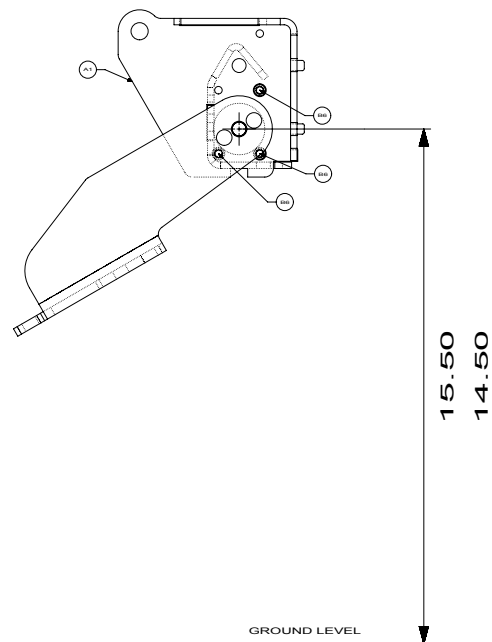

Figure 5 Install fasteners
- Determine which pin height mounting location will be used. Pin (B7) should be between 14 1/2 to 15 1/2 inches from the ground for best plowing performance. See Figure 5.